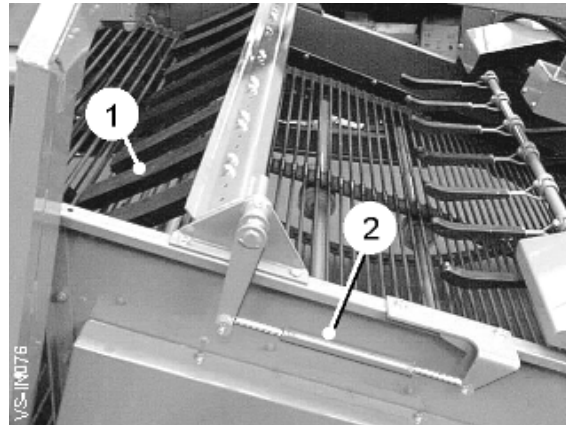

Fig 12
The clod breaking fingers consist of one or two rows of trailing rubber blocks (item 1, fig 12). These operate by rolling the clods and potatoes which, in some soil conditions, has the effect of splitting the clods and allowing the smaller pieces to fall through the web.
To vary their effectiveness the clod fingers can be raised above or lowered down onto the web by adjusting the turnbuckle (item 2, fig 12). Care should be taken not to set the fingers to operate too rigidly onto the web or bruising and skin scuffing may occur.